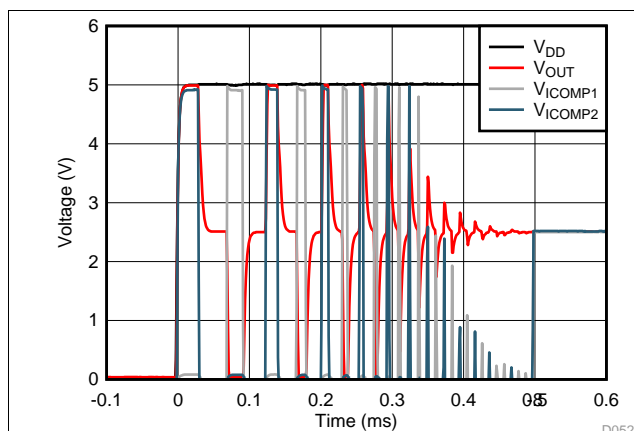
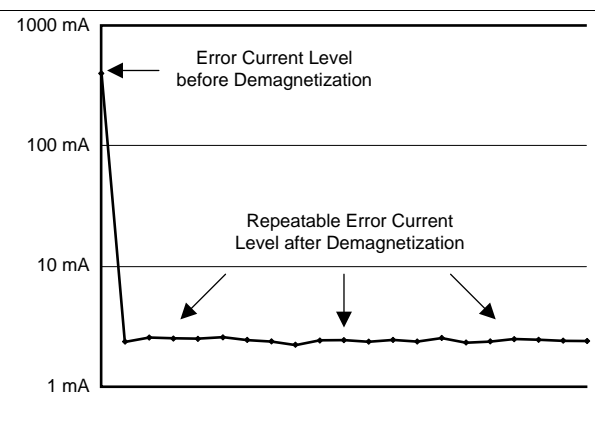

图 61. Demagnetization Sequence
图 62. Impact of Demagnetization on Error Current
Start the demagnetization feature on demand by pulling the DEMAG pin high for at least 25 μ s. This process starts a 500-ms demagnetization cycle. During this time, the error pin (ER) is pulled low to indicate that the output is not valid. When DEMAG is high during power up, the demagnetization cycle initiates immediately after the supply voltage crosses the power-up threshold. Hold DEMAG low to avoid this cycle during start up. To abort the demagnetization cycle, pull DEMAG low for longer than 25 μ s. 图 61 shows the ICOMPx output behavior during a demagnetization sequence. 图 62 shows the reduced error resulting from core demagnetization.